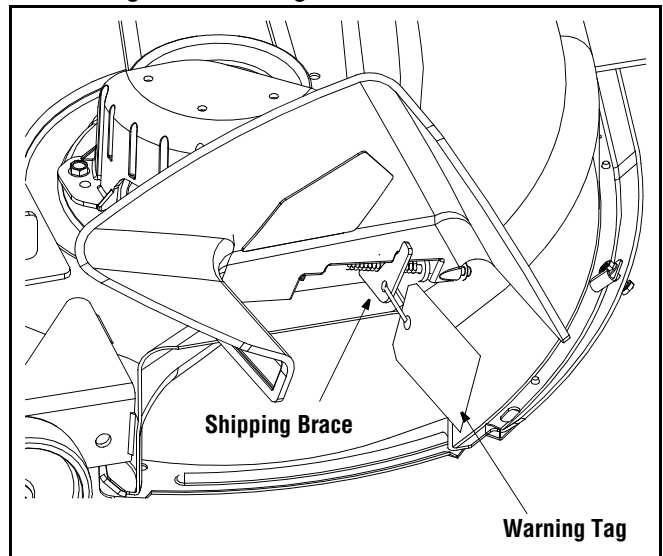

Figure 2
- Locate the shipping brace, if present, and accompanying warning tag found on the right side of the mower, between the discharge chute and the cutting deck. See Figure 2.